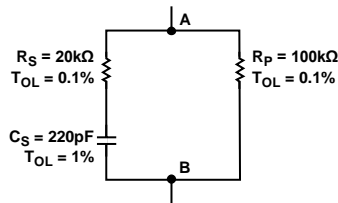
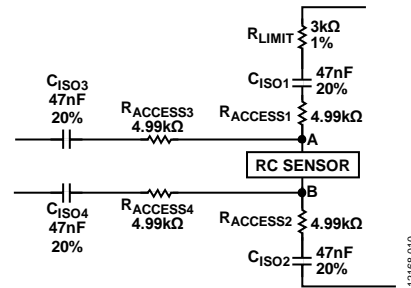
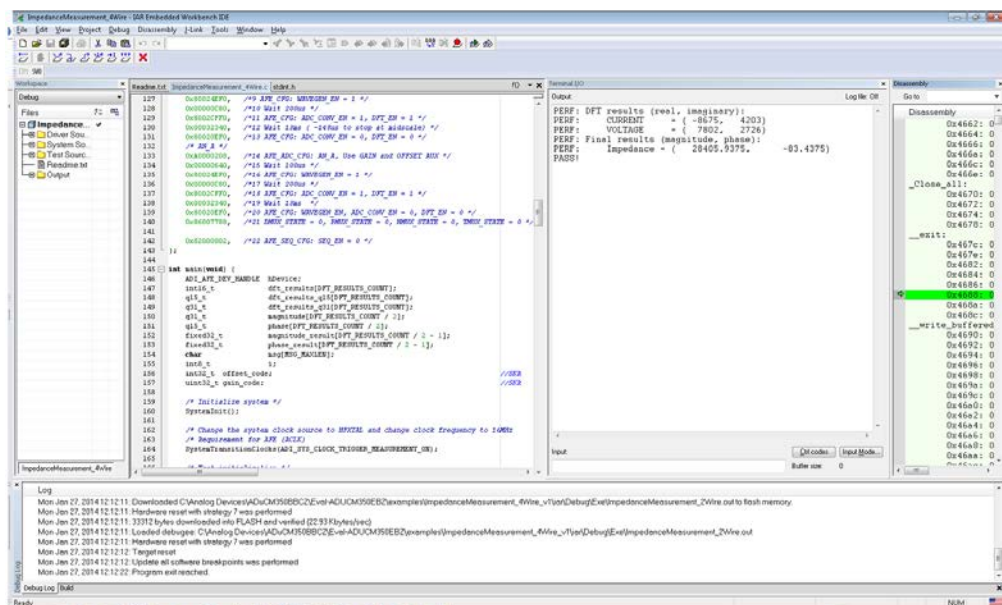

Figure 10. RC Sensor to be Measured
Figure 11. 4-Wire, Bio-Isolated Measurement Network
Figure 13. 4-Wire Measurements Display on Terminal I/O
In the example described in this application note, measure the impedance of an RC type sensor, with the configuration shown in Figure 10, for a 30 kHz excitation signal. Note that T_{OL} indicates tolerance.
If Z is close to or less than R_{ACCESS} , a potential divider effect occurs which limits the bandwidth of the ADuCM350 thus degrading accuracy (see Figure 11).
- To measure the network shown in Figure 10 and Figure 11, insert LK16, LK17, and LK21. The result should appear as shown in Figure 13.
By default, the 4-wire configuration seen in Figure 10 and Figure 11 is setup on the 4-wire bio-configuration board.